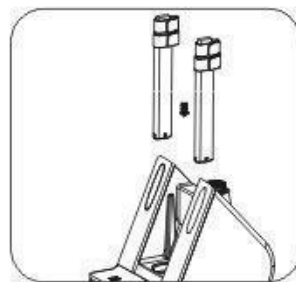

Fig. 2
- Fig 2: Install the telescopic tube into the product body.